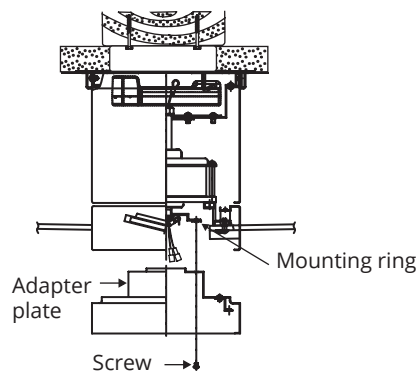

FIGURE 15
Secure the wall control with the two wall control mounting screws provided. (Fig. 15)
2. Place the key holes in the adapter plate over the two screws previously loosened from the mounting ring. Turn the adapter plate until the adapter plate locks in place at the narrow section of the key holes. (Fig. 15)